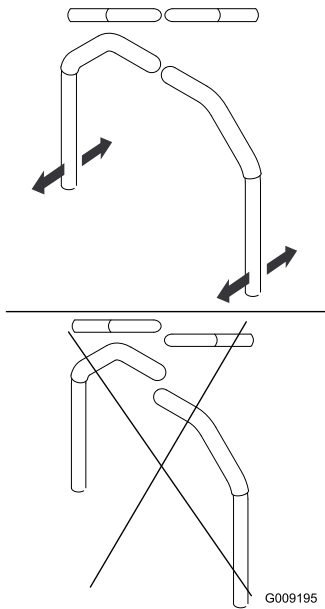

Figure 85
4. Align the levers in the front-to-rear position by bringing the levers together to the NEUTRAL position, and slide them until they are aligned, then tighten the bolts (Figure 85).